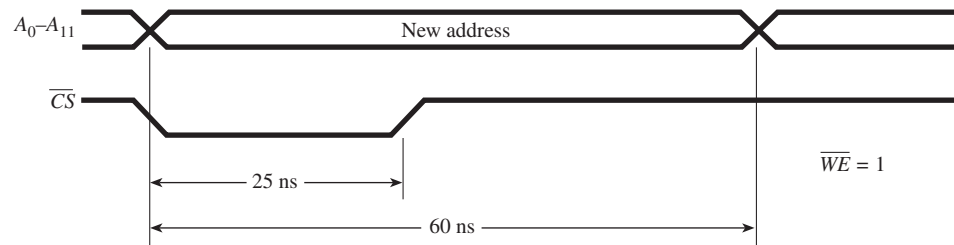

Figure P13
- T** 13. When troubleshooting the memory system in Figure 7, you keep reading incorrect values at D_0 to D_7 . Using a logic analyzer, you observe the waveforms of Figure P13 at A_0 to A_{11} and CE . What is wrong and how would you correct it?